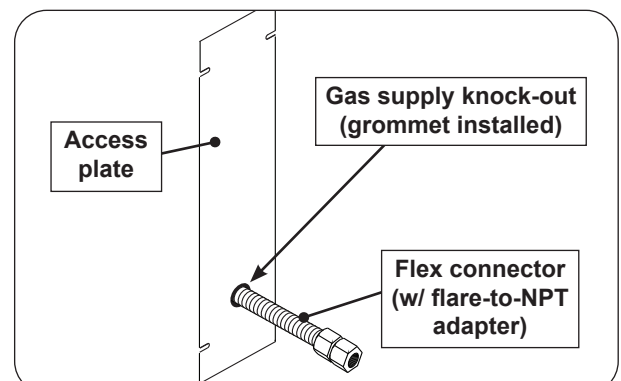

Fig. 26-4 Access plate view & install orientation
2. Remove the plastic grommet (attached to the flex connector) and insert it into the newly created opening. Then route the flex connector through the opening. See Fig. 26-4.